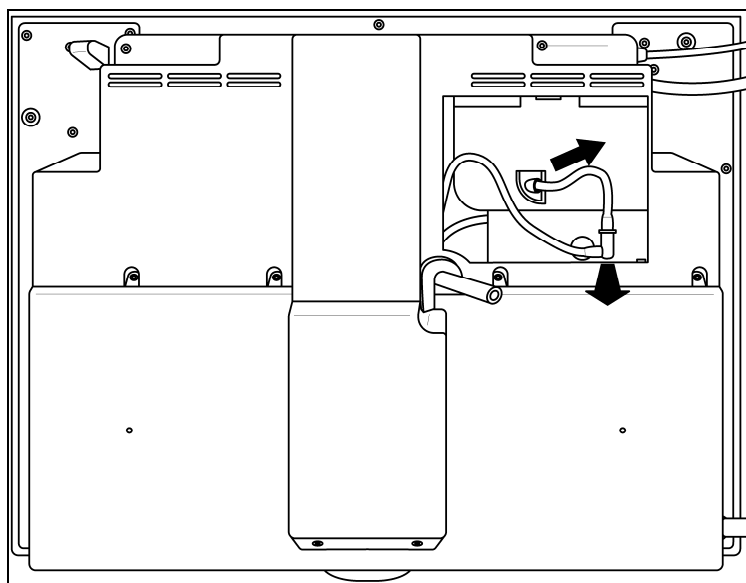

Figure 001-48: Hose on Inner Door Cover
4. Disconnect and remove the hose (Figure 001-48).